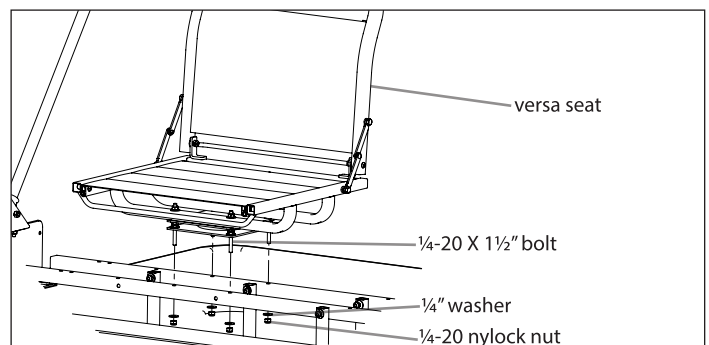

FIGURE 6
10. To attach the seat/swivel assembly, from Step 9, to the seat rail (14818), use the remaining hardware found in the small parts bag (15752) -- (4) ¼-20 x 1½" bolts, (8) ¼" washers and (4) ¼-20 nylock nuts. Repeat this step to assemble the other seat/swivel assembly to the seat rail (14818). **SEE FIGURE 6**